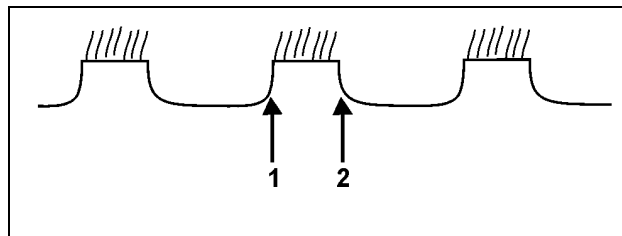

Fig. 32
- Adjust the 1st disc row to the right hand side and check again (Fig. 32):